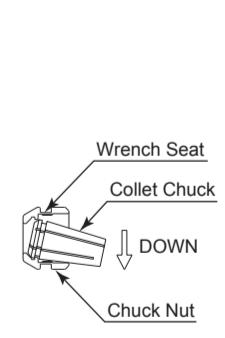

Fig. 10
- The collet chuck and chuck nut are secured by a groove in the collet chuck and a flange in the chuck nut. To remove the collet chuck hold the chuck nut in one hand and push diagonally down on the collet chuck. The collet chuck should be released. (Fig. 10)
- To install the collet chuck, hold the collet chuck at a slight angle, and insert it into the chuck nut (Fig. 11). Press the collet chuck in the chuck nut by positioning the collet chuck in the chuck nut and pressing down on flat surface (Fig. 10).